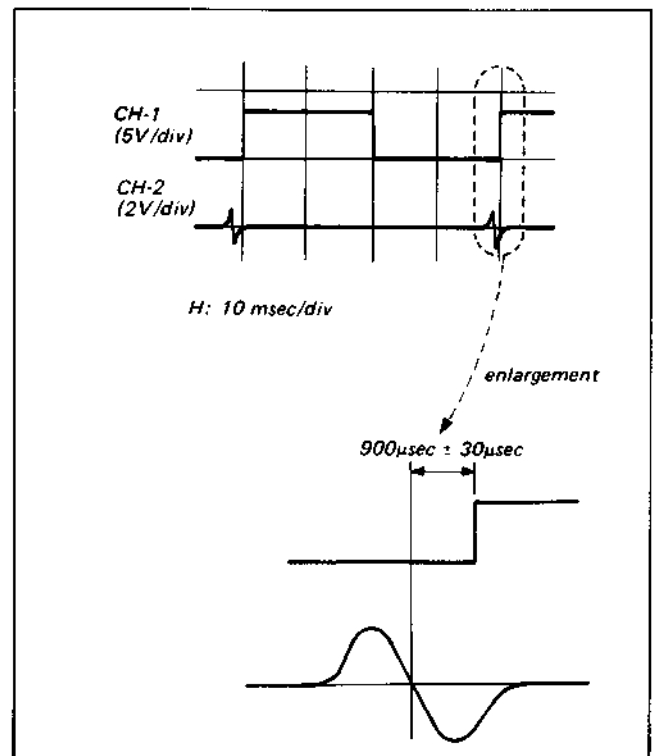
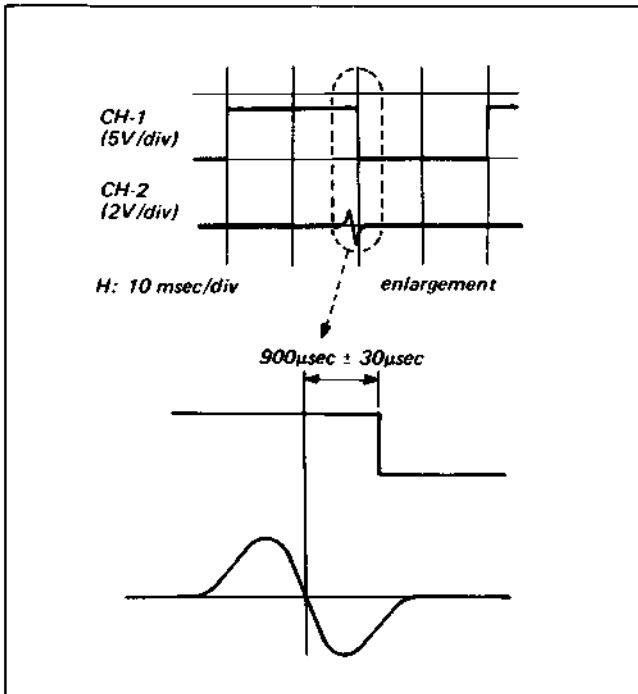

Fig. 5-7. RF switching position adjustment (1)
Fig. 5-8. RF switching position adjustment (2)
- i) Adjust to $900 \mu\text{sec} \pm 30 \mu\text{sec}$ with RV304 (See Fig. 5-7.)
- ii) Change connection of CH-2 only to Pin ⑩ of IC301.
- iii) Adjust to $900 \mu\text{sec} \pm 30 \mu\text{sec}$ with RV305 (See Fig. 5-8.)